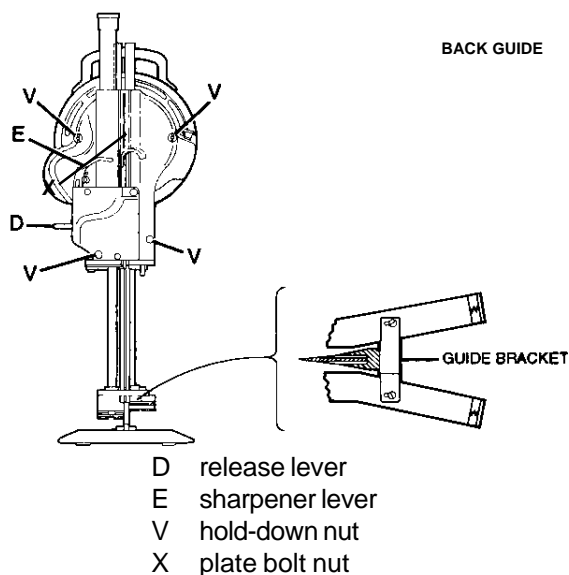
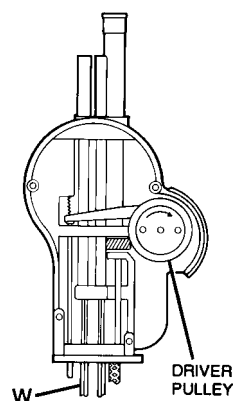

Figure 3. Removing the Sharpener
Figure 4. Replacing the Rubber Driver Pulley
After servicing the machine, always make sure the plate bolt nut is securely fastened (Figure 3, X on page 6) before resuming cutting operation.
3. Press the sharpener lever (Figure 3, E on page 6) approximately halfway down and to the neutral position, and lower the sharpener by hand.
4. Remove the back guide (Figure 3).
5. Press the lever (Figure 3, E) to a neutral position and raise the sharpener to the top (original) position.
6. Remove the four hold-down nuts (Figure 3, V) and remove the sharpener.
Note: If you press the sharpener lever (Figure 3, E) down too far (beyond the neutral position), it will lock the sharpener bracket. If this occurs, lift the release lever (Figure 3, D) and start over again.
The sharpener is driven by a rubber driver pulley, as shown in Figure 4. Replace this driver pulley whenever it appears to be worn or damaged, as follows:
2. Press the sharpener lever (Figure 3, E) to a neutral position and lower the sharpener until an inch of the square shaft (Figure 4, W) is exposed.
4. Use a spanner wrench to remove the driver pulley by turning it clockwise as indicated by the arrow in Figure 4.